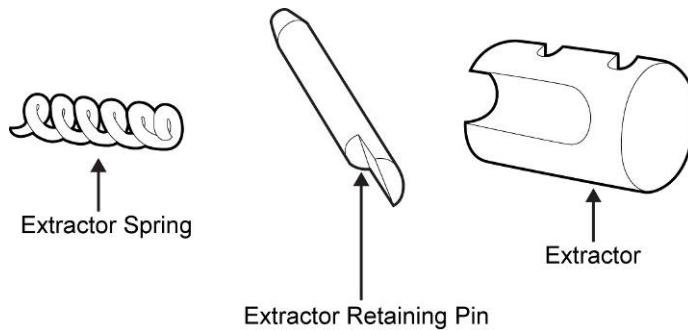

Figure 4. Extractor Assembly.
c. Improperly assembled extractor assembly. Refer to Figure 4.